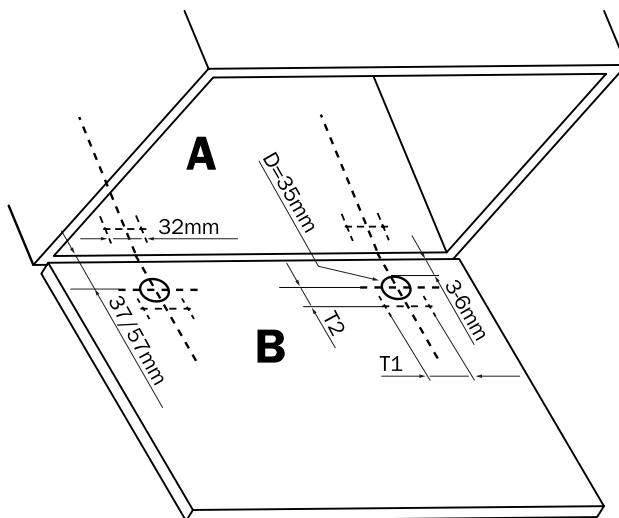

Fig. 13
**Figure 13** shows how to drill holes for hinges.
Indicate the hinge axes and the distance from upper and lower edges from the inside part of the work piece on the side of the body. If possible, it is advisable to keep a 120mm distance from the edge of the work piece. Position the door at the side element so that they protrude by the same amount on both sides. Now copy the hinges' axes on the inner side of the door. Using a set square, draw the axes of the hinges at about 150mm from the edge of the side element and the door. The precision of the hinge indication will affect the positioning of the door at the top (**Fig. 13**).